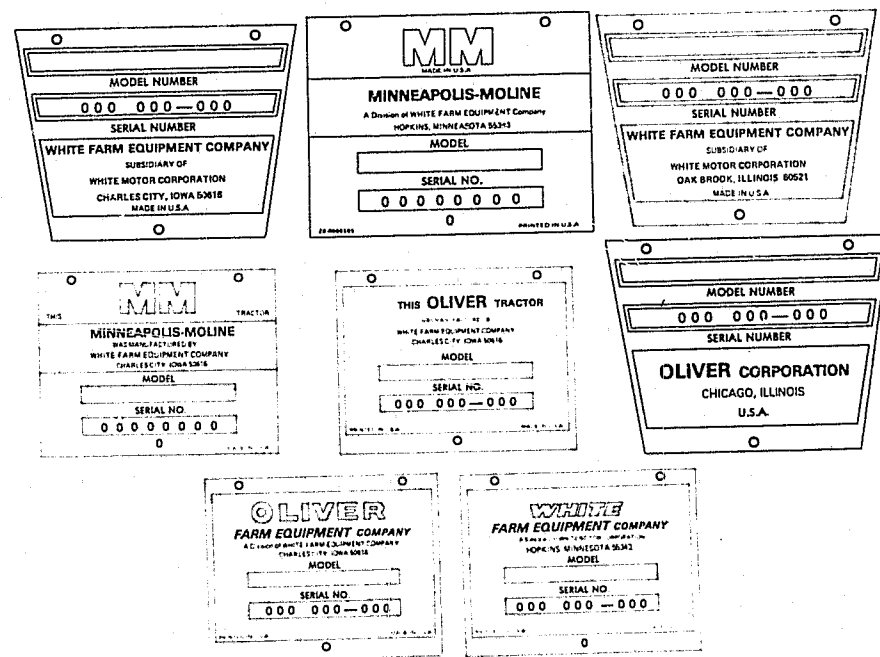

Figure 1
- The tractor serial number is stamped into one of six types of metal serial number plates which is attached with three rivets to the left side of the center frame. (See Figure 1)